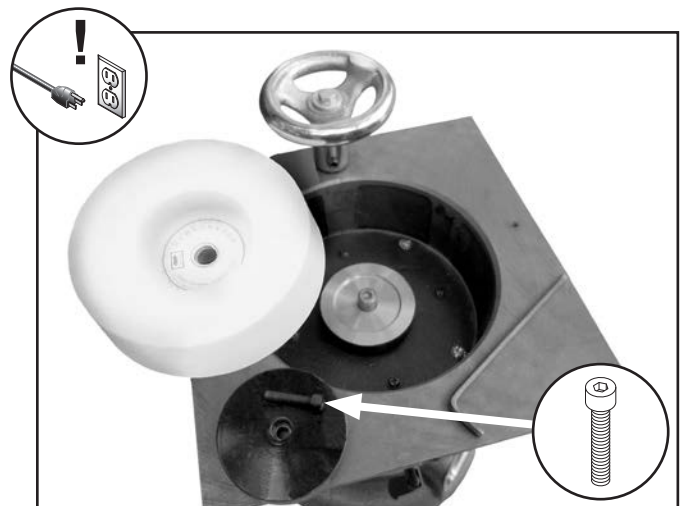

Figure 32. Grinding wheel removed.
3. Loosen cap screw in center of wheel, then lift wheel, flange, and cap screw up and off motor spindle (see **Figure 32**).